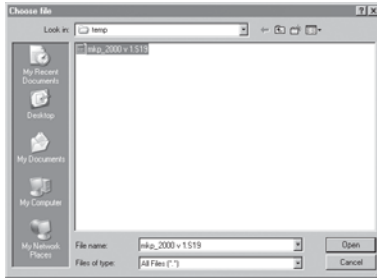

Figure 5-7 — Firmware upgrade open file window
- Click the *Browse* button. An open file window appears (figure 5-7).